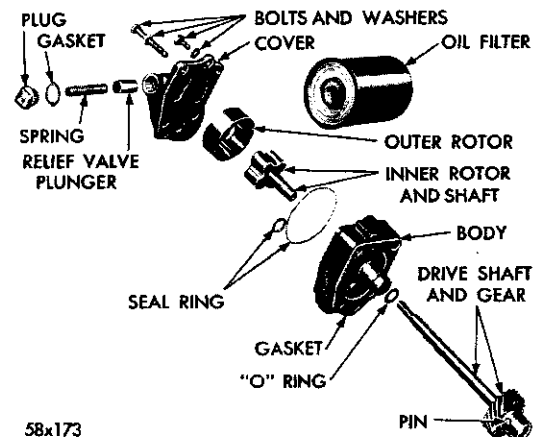

Fig. 2—Oil Pump and Filter Assembly (Disassembled)
- (1) Remove the filter base and oil seal ring.
- (2) Remove the pump rotor and shaft and lift out the outer pump rotor.
- (3) Remove the oil pressure relief valve plug and lift out the spring and relief valve plunger (Fig. 2).